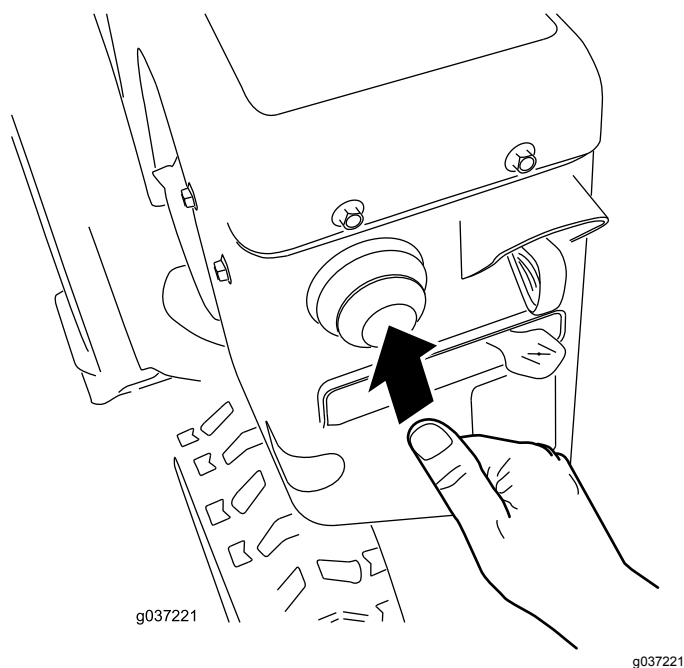

Figure 23
4. Firmly push in the primer with your thumb as indicated by the following table, holding the primer in for a second before releasing it each time (Figure 23).